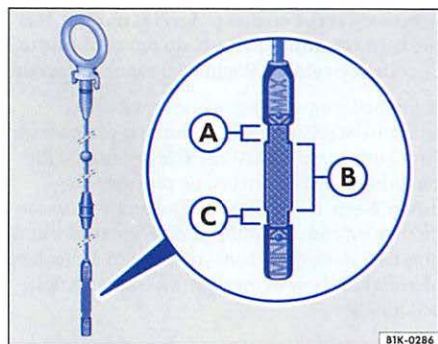

Fig. 6 Engine oil dipstick with engine oil level marks
- Ⓐ You **must not** add oil ⇒ fig. 6.
Illustration ⇒ page 44, fig. 6 shows the oil dipstick. Depending on the model, your oil dipstick
- As soon as the oil level is in area ⇒ page 44, fig. 6 , carefully screw the oil cap back on and insert the oil dipstick all the way. Otherwise oil could leak out when the engine is running. ▶
If the oil level is above level ⇒ page 44, fig. 6 , do not start the engine - this could damage the catalytic converter and the engine! See an authorized Volkswagen dealer or a qualified workshop.